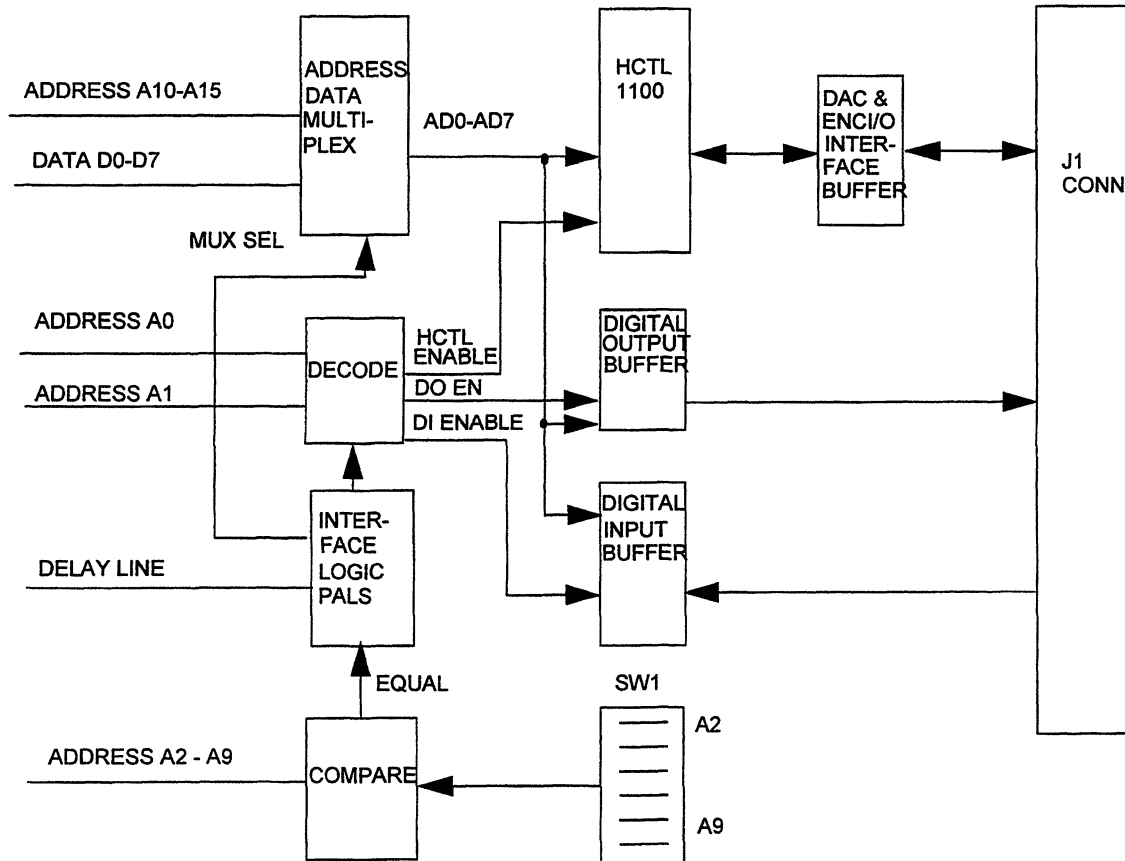

Figure 10
and available. The MC-1000's high memory addressing technique requires that the MC-1000's base address be asserted to provide an enable for access (read or write) to the HCTL-1100. It also requires that A10 through A15 be driven with the address of the specific register in the HCTL-1100 to be accessed, with A10 having the value of A0 (0), etc. up to A15 with value A5 (32). This approach is shown graphically in Figure 10.